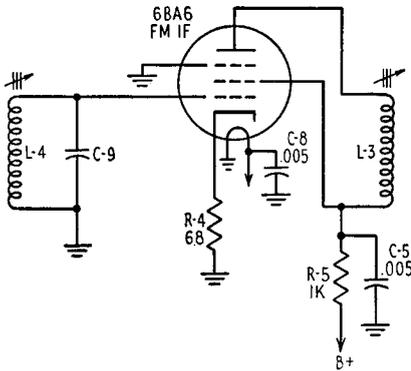

FIG. 25-9. F-M IF amplifier of the basic receiver.
**The F-M IF amplifier.** The second IF amplifier is shown in Fig. 25-9. Note the absence of a bypass condenser across the self-bias resistor *R-4*. This device is used to introduce degeneration and to reduce the possibility of the tube's falling into oscillation. Where a little more gain is wanted, the bypass condenser is used. Bias on the tube is about one volt.